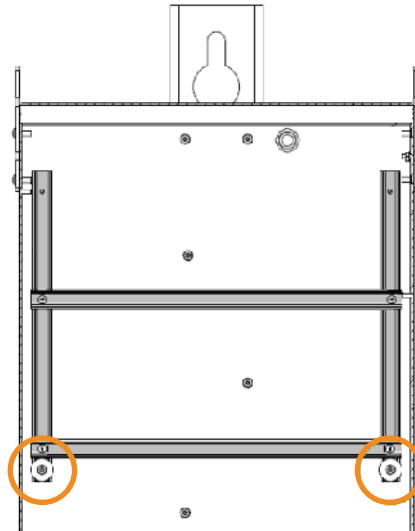

Figure 1 Install Accessory Mounting Assembly
- Step 1. Install the accessory mounting kit subassembly to the back of the cabinet. Secure the accessory mounting kit to the cabinet with the two fender washers and two nuts on the bottom studs only. See *Figure 1*.